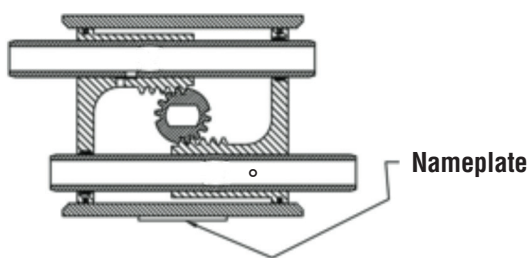
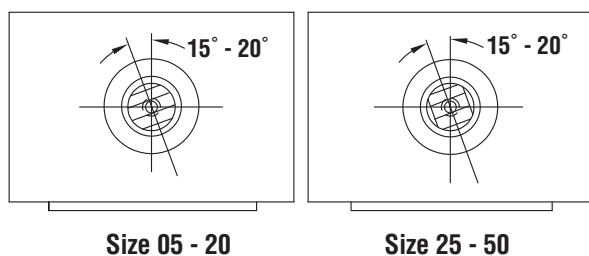

Figure 1
Figure 2
- 14.2.7 Align the shaft so that the teeth on the shaft will “pick-up” the piston assembly's rack teeth when turning the top extension of the shaft clockwise (CW). (See Figure 1).
IMPORTANT: Proper 90° rotation can only be ensured if the shaft teeth begin to mesh with the piston assembly's teeth at the “proper tooth” between these meshing gear pairs. (See Figure 1).
- 14.2.8 To ensure proper meshing of teeth, move the shaft 15 to 20 degrees counter-clockwise (CCW) from its normal position when the piston assemblies are located at the body ends. (See Figure 2.) NOTE: The “normal position” of the shaft on the 05–20 sizes is when the top flats are parallel to the main axis of the actuator body. On the 25–50 sizes the teeth of the shaft will be on the left side of the actuator when viewed from the ends of actuator. (See Figure 1).
IMPORTANT: Align gear teeth on the shaft as per Figure 1.